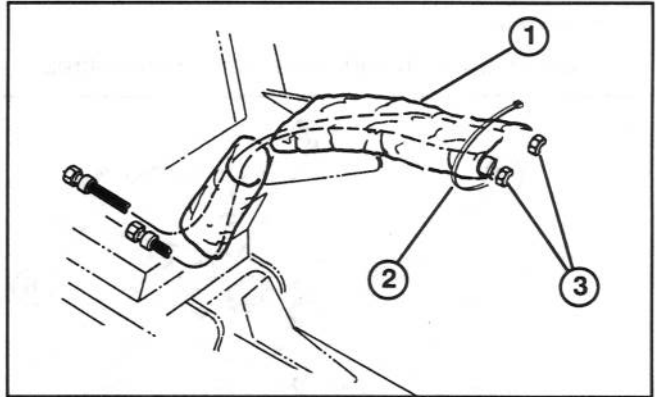

**Figure 6**
2. Insert mounting tab of pulley guard in between fuel filter head and mounting bracket (Fig. 6).